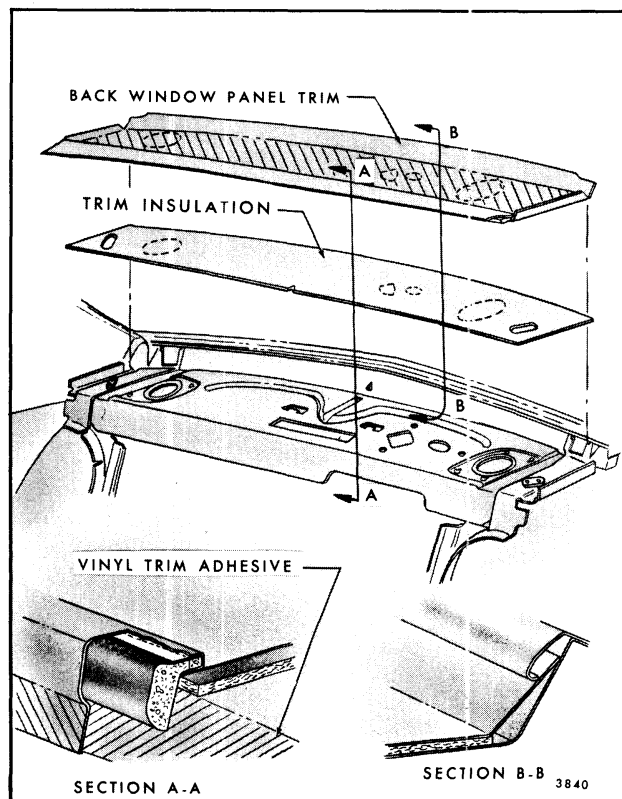

Fig. 9-64-Back Window Panel Trim Attachment All Styles
5. Carefully break cement bond securing trim assembly at seat back panel (Fig. 9-64).
7. To install, position trim assembly to back window panel by inserting rear edge of assembly under garnish molding or feature strip. Center and align front edge of trim assembly with front edge of seat back panel as shown in Figure 9-64. With non-staining vinyl trim adhesive, cement valance of trim assembly to seat back panel as shown. Install attaching screws if present, then reverse balance of removal procedure.